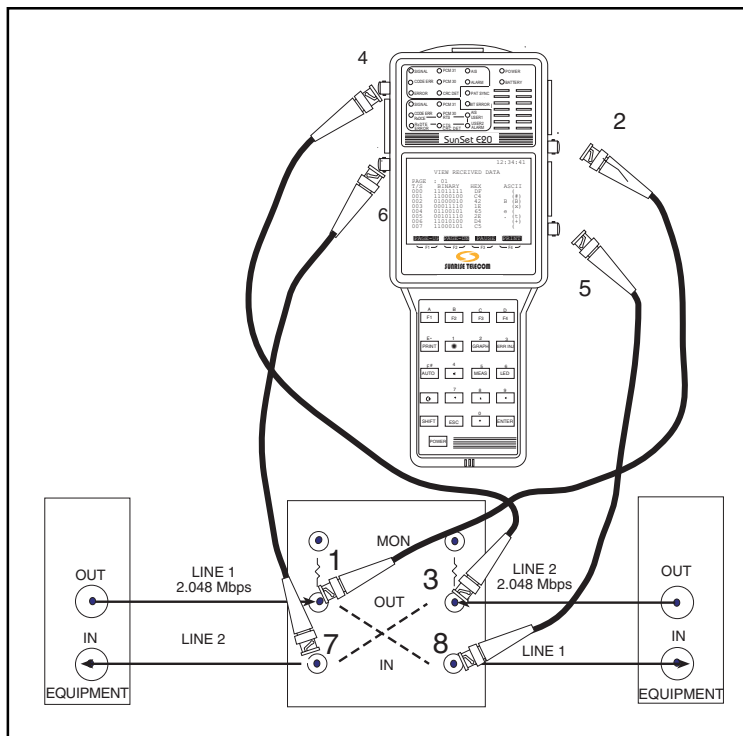
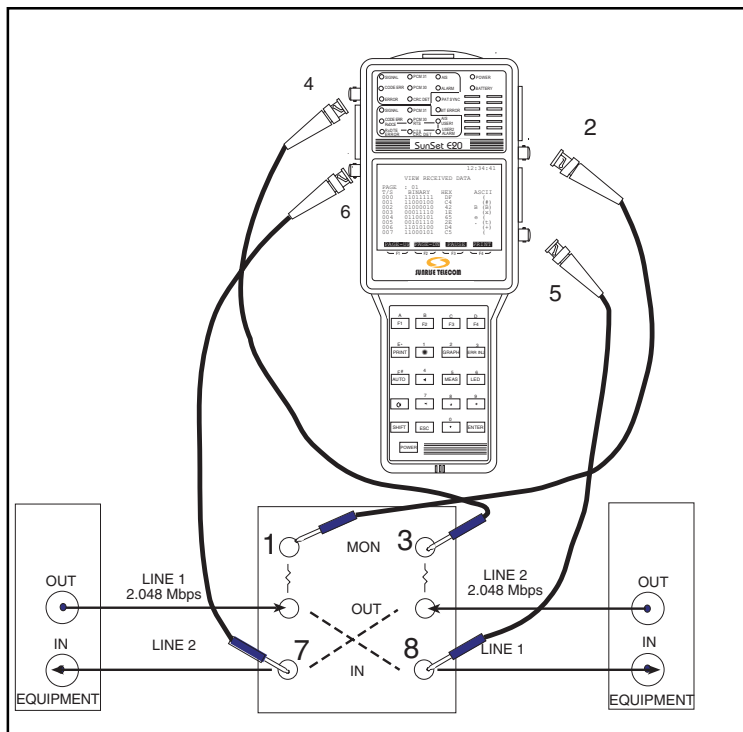

Figure 114
Figure 115
To conduct a dual drop and insert THRU mode test on a line that is in service, make sure all the connections are made in accordance with the numbering procedure in Figure 114 to ensure the least amount of interruption on the live circuits.
2) Connect the SunSet to the circuit as shown in Figure 114 or 115. Figure 114 provides a BNC-BNC diagram, while Figure 115 shows bantam to BNC cables.